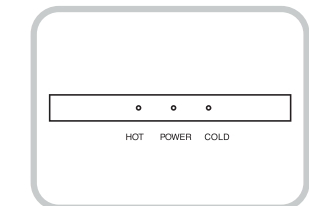

Fig.3
5. Turn ON the hot water switch, wait a couple of minutes and turn ON the cold water switch. Allow the unit to reach the minimum cold and hot water temperatures. This will take approximately 45 minutes and the indicator lights will turn OFF. (Fig. 3)